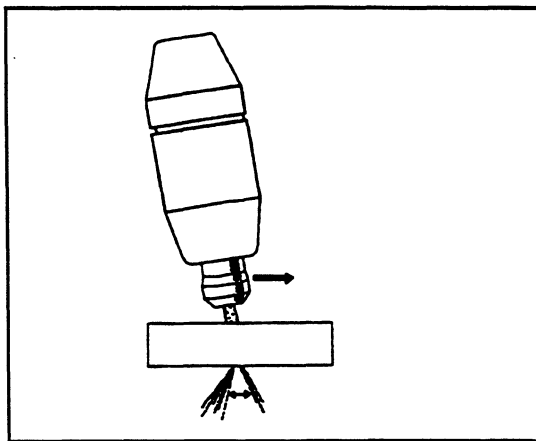

Figure 3-2. Recommended Torch Angle of 5° to 15°
- D. After starting the cut, the torch should be maintained at a 5-15° forward angle (Figure 3-2). This angle is especially useful in helping to create a "drop" cut. When not using the standoff guide, the nozzle should be held approximately 6 mm from the work.